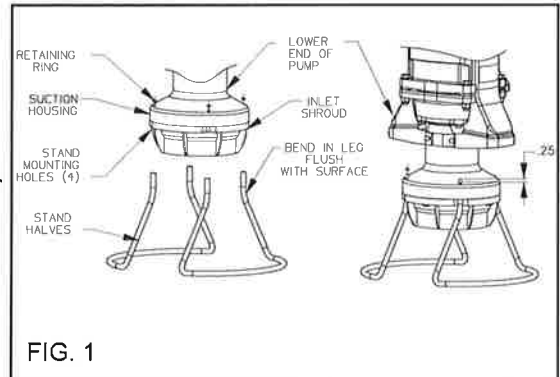

FIG. 1
3. Attach pump stand. (Fig. 1) Temporarily rest the grinder pump on its side. Using a block of wood or similar object, prop up the lower pump end to allow installation of the pump stand. Align the two legs of each pump stand half with two of the holes in the pump lower end. Push the stand legs into the pump lower end. Using a mallet, ensure that the stand legs bottom into the mounting holes. Repeat for the other stand half. Turn the pump upright on the installed stand.